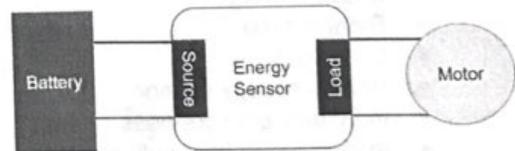

Figure 3. Motor and Energy Sensor
18. Disconnect the lamp and replace it with the motor as seen in Figure 3.